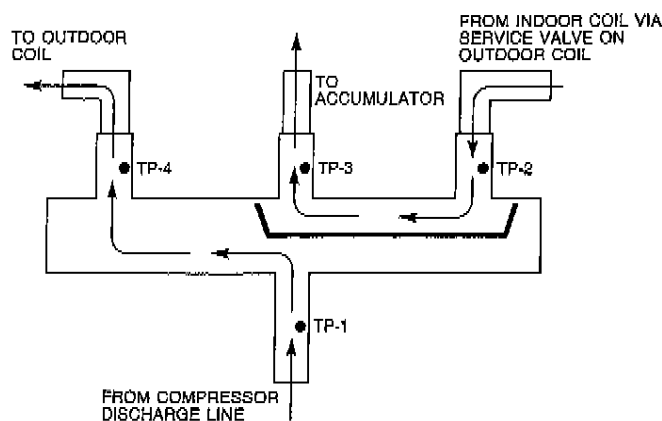

Fig. 35—Reversing Valve (Cooling Mode or Defrost Mode, Solenoid)
Using a remote measuring device, check inlet and outlet line temperatures. *Do not* touch lines. If reversing valve is operating normally, inlet and outlet temperatures on appropriate lines should be close. Any difference would be due to heat loss or gain across valve body. Temperatures are best checked with a remote reading electronic-type thermometer with multiple probes. Route thermocouple leads to inside of coil area through service valve mounting plate area underneath coil. Fig. 35 and 36 show test points (TP) on reversing valve for recording temperatures. Insulate points for more accurate reading.